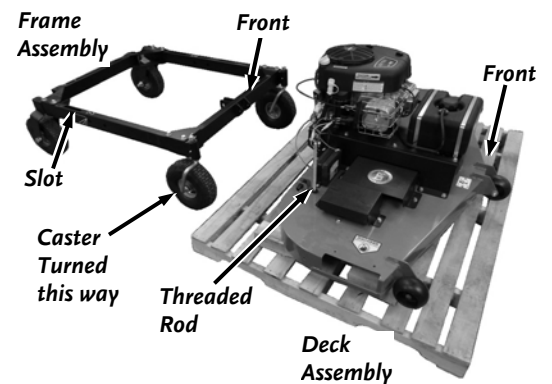

Figure 8
6. Place the Frame Assembly as shown with the Caster Wheels next to the back of the Deck Assembly. Turn the Casters toward the rear wheels (**Figure 8**).